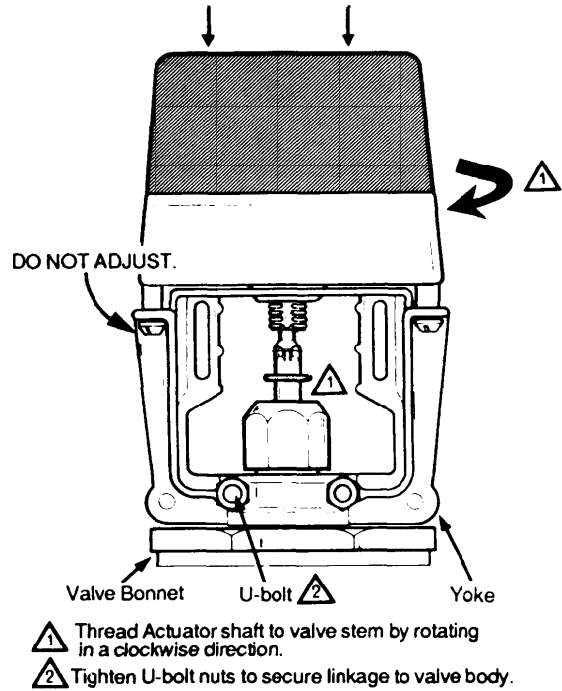

FIG. 4 -- ASSEMBLY OF ML6984A TO VALVE.
1. The drive shaft of the ML6984 has a threaded hole to link with the valve stem. Slide the yoke over the valve bonnet (Fig. 4)
3. Care should be exercised when using tools on the valve stem during tightening. (Fig.4) **DO NOT** damage the threads or other parts of the stem.